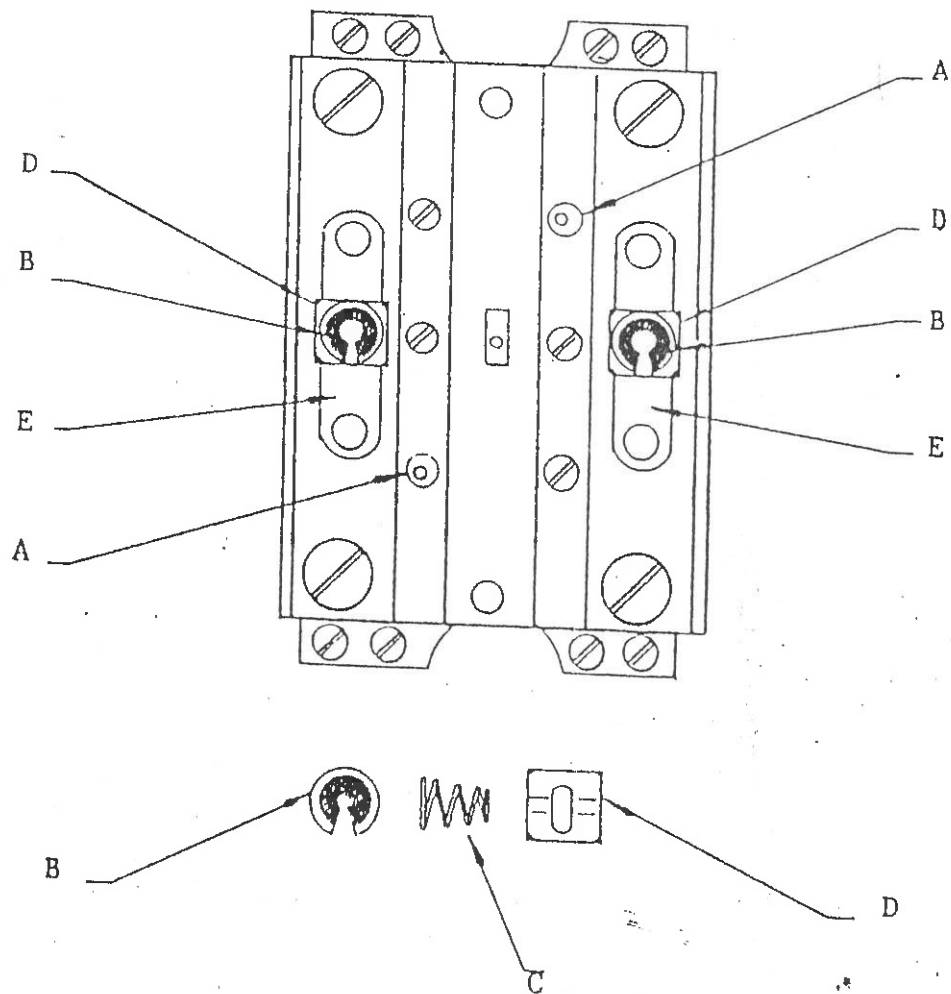

Figure 10.3 Contactor CR-1 Contact Cleaning and Replacement
- b. Refer to Figure 10.3. Remove the two screws "A" and lift off contactor CR-1's top cover plate.